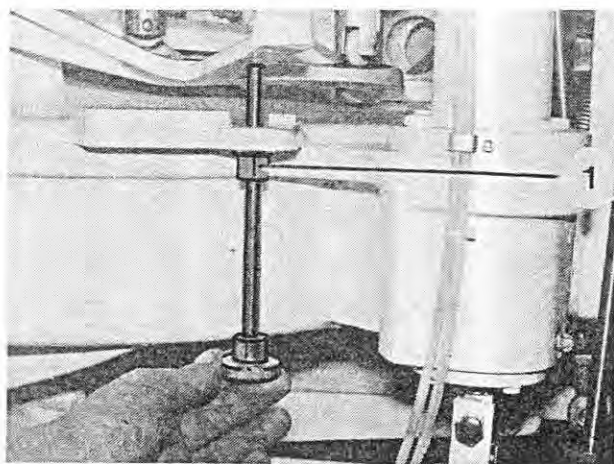

Fig. 161
27. Loosen the counternut (Figure 161/1) and turn the spindle until the distance from the upper edge of the rotary table to the cell bottom in the pressing station exceeds the package height by 4...6 mm. Tighten the counternut.